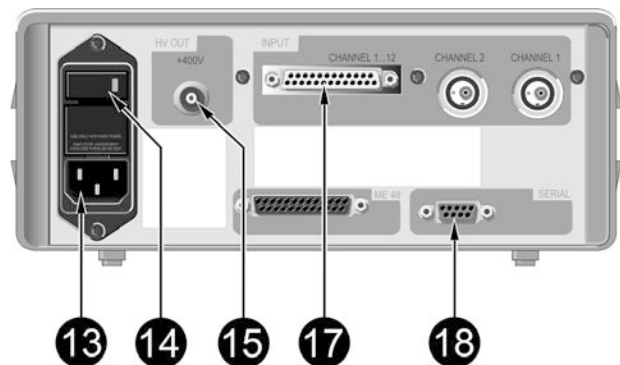

Figure 9-6: Rear panel of MULTIDOS
- Connect the QC6Plus measuring probe to MULTIDOS (connectors **17** (signal) and **15** (high voltage), Figure 9-6), using the connection cable T26011-x.